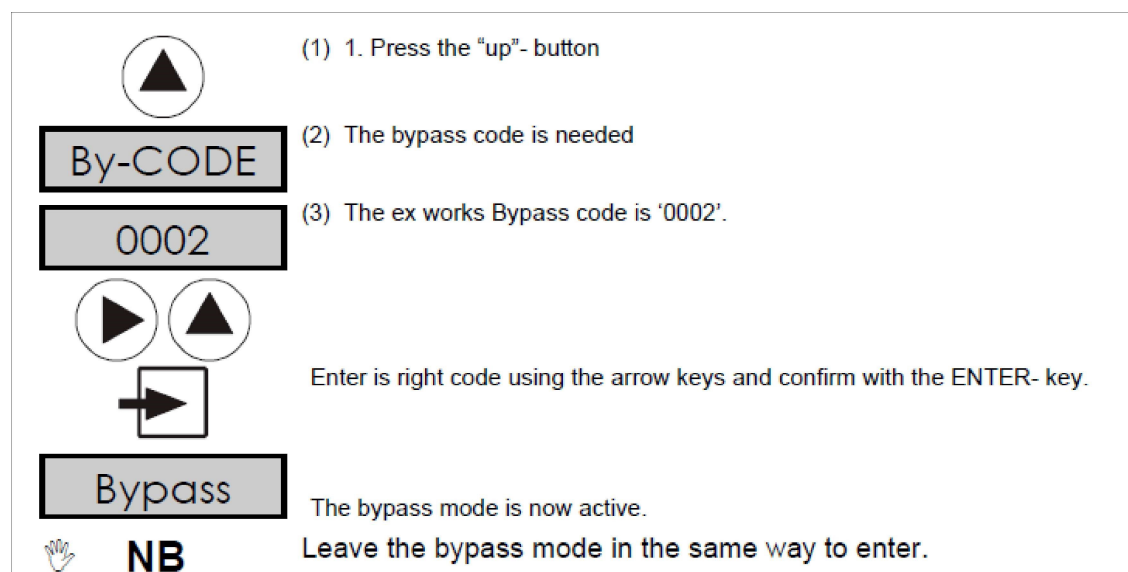

Fig. 49: Activate and deactivate bypass
2. Follow the instructions in Fig. 49, page 75